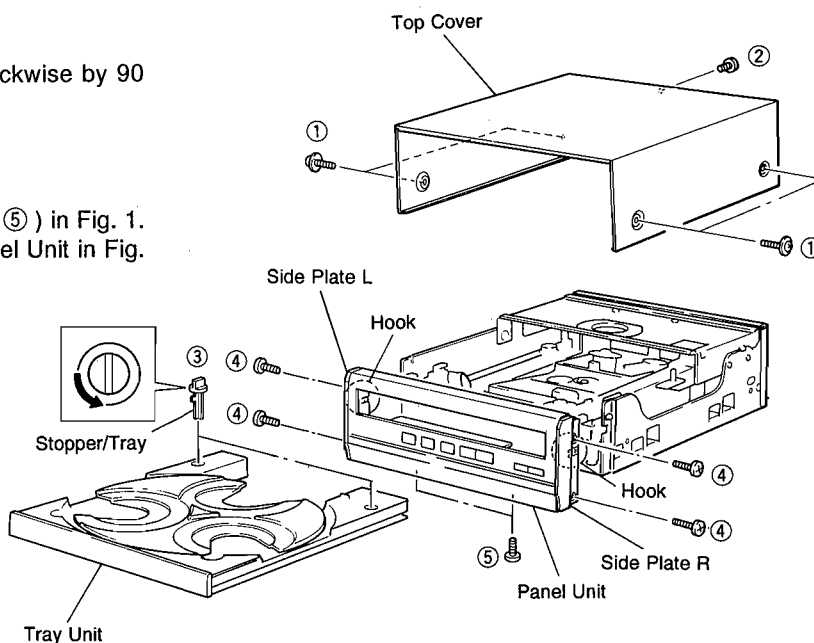

Fig. 1
- Turn the stopper/tray (③) counterclockwise by 90 degrees to pull it out in Fig. 1.
- Remove 4 screws (④) and 2 screws (⑤) in Fig. 1.
- Remove 2 hooks and then pull the Panel Unit in Fig. 1.